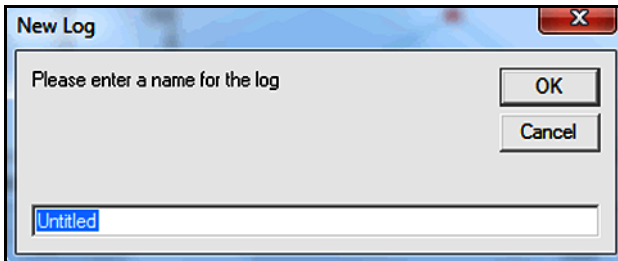

Figure 67: Log Name Dialog Box
- f. Enter a name for the log file in the dialog box shown in *Figure 67* below ("Untitled" is used here). Click on the [OK] button.